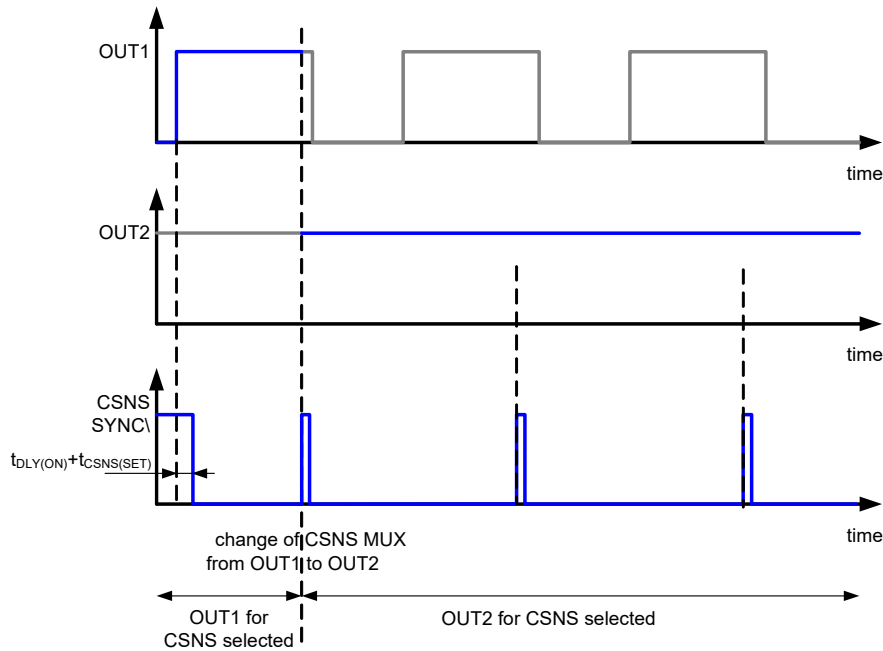

Figure 33. CSNS SYNCB when the output is programmed for 100 %
- when the output is programmed with 100 % PWM, the CSNS SYNCB delivers a logic[0] a high pulse with the length of 100 μs (typ.) during the PWM counter overflow for TRIG0 and TRIG1/2 settings, as shown in Figure 33